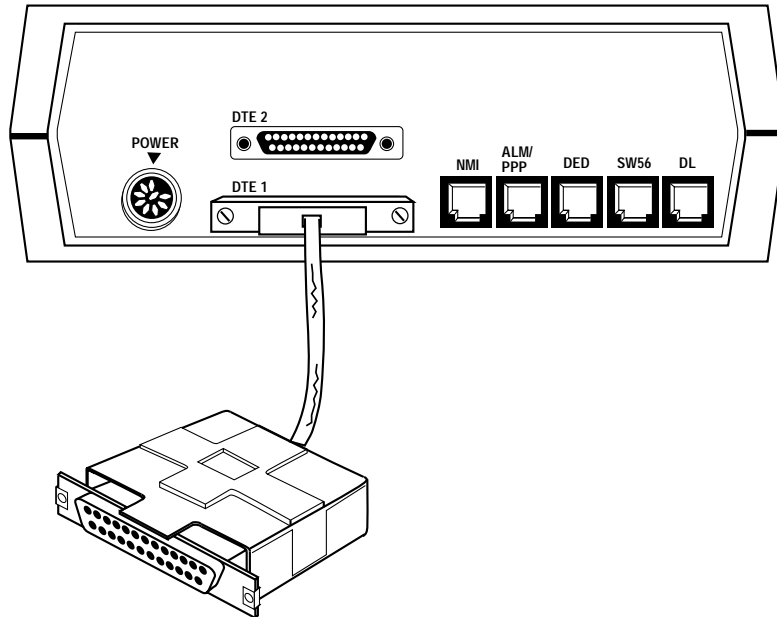

Figure 3-2. RS-232 DTE Connection
- **RS-232-E** - Use a standard EIA-232-E cable (25-pin male to 25-pin female) to make this connection. This cable is typically supplied with the DTE. To connect to the DTE, plug the male end of the cable into DAP connector labeled **DTE 1** and plug the female end into the DTE. Figure 3-2 illustrates this connection. Table 3-1 lists the pin/signal assignments for the **DTE 1** connector.
3-3 Replace Figures 3-2 and 3-3 with the following: